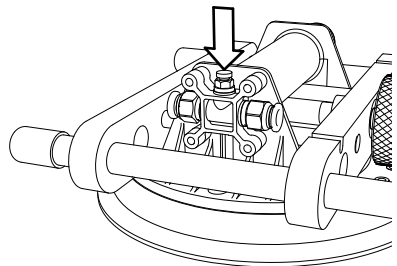

fig. 5
18. After adhesive has cured, press the vacuum release valve for each cup, then lift unit off the material. (see fig. 5)